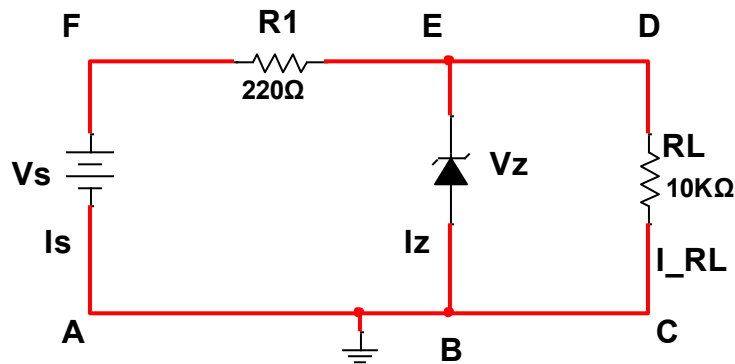

Figure 1 Zener Diode Voltage regulator Circuit
1. Wire the circuit shown in Figure 1, where DC source  $V_S$  is set according to the values in Table 1.